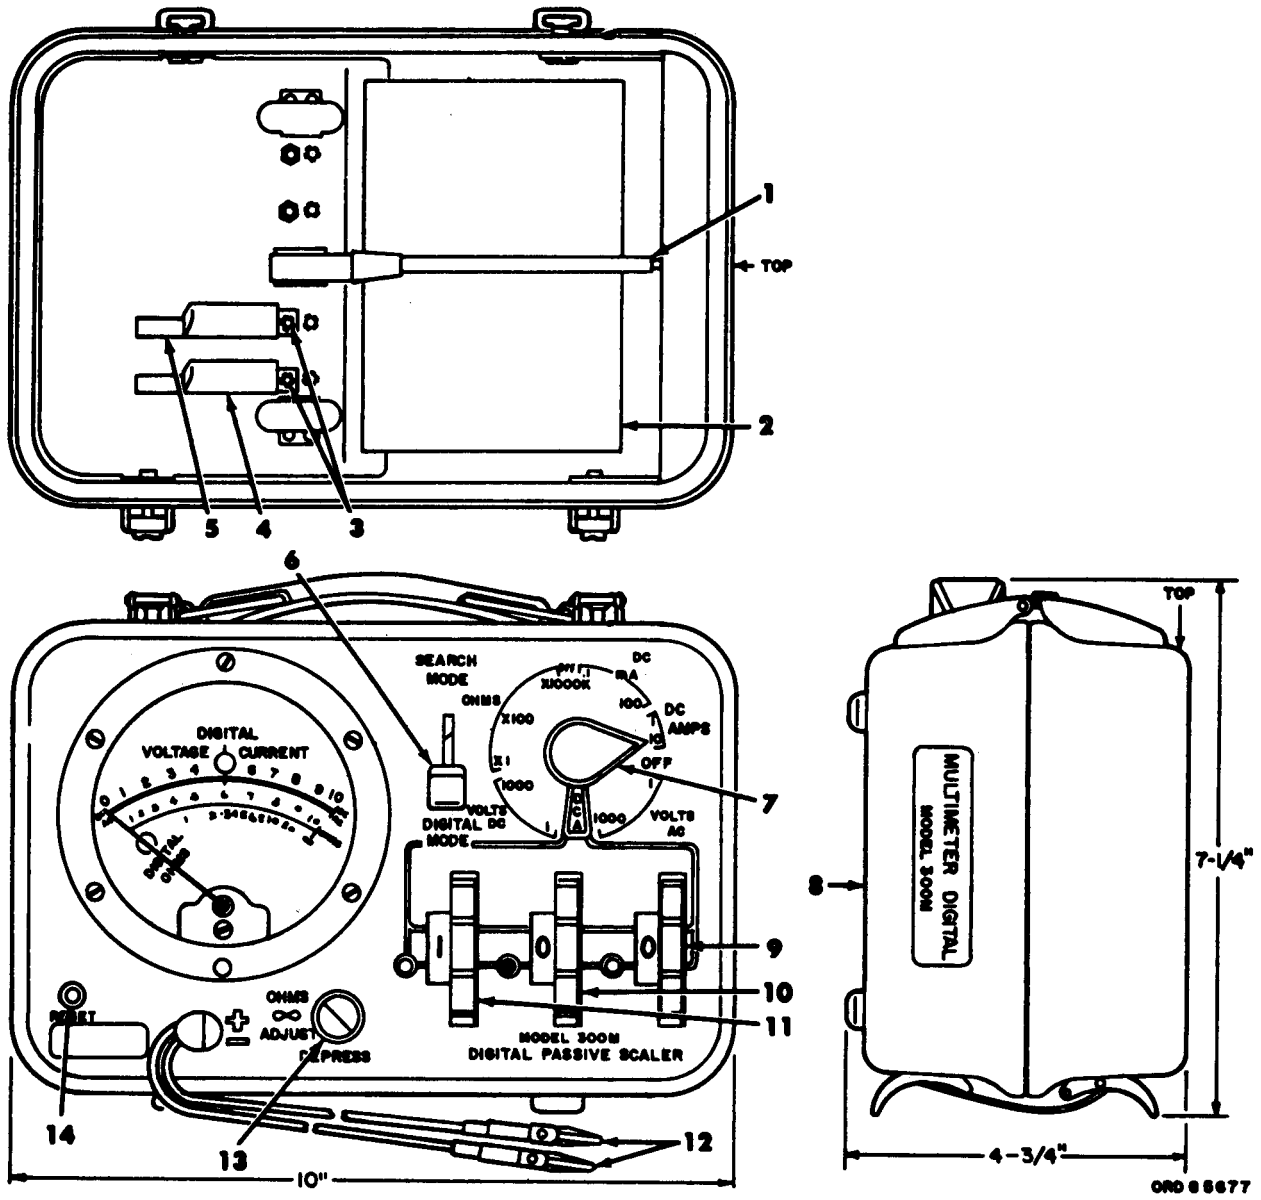
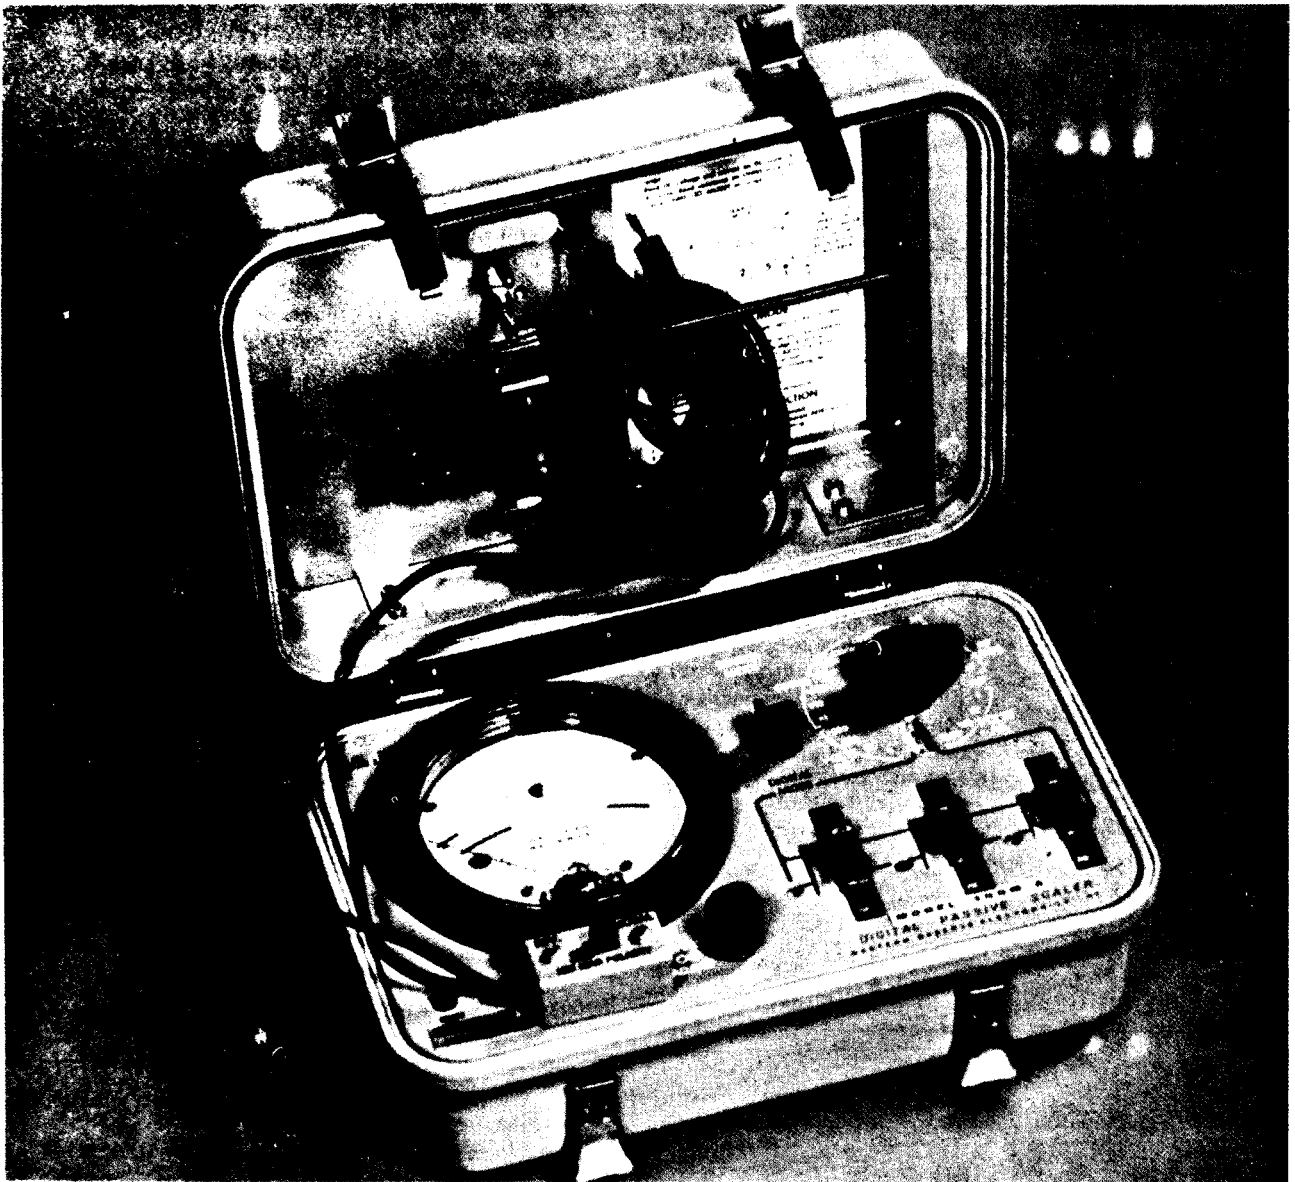

Figure 1. Model 300M multimeter.
Figure 1.1 Multimeter AN/USM-303A
a. *Purpose.* Multimeters AN/ USM-303 and AN/ USM-303A (multimeter) (fig. 1) (fig. 1.1) measure direct current (dc) and alternating current (ac) voltages, direct current, and resistance in electrical and electronic equipment.
5.1. Items Comprising Multimeter AN/ USM-303 or AN/ USM-303A (fig. 1 and 1.1)